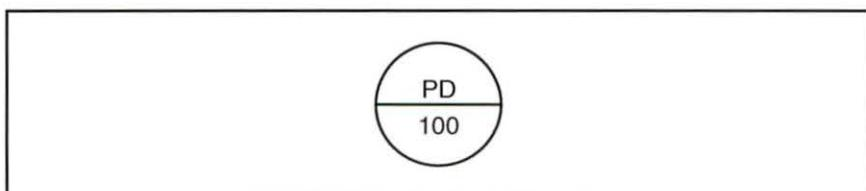

Figure 50. Instrument Tag
8. Determine the measured variable indicated in the instrument tag in figure 50.